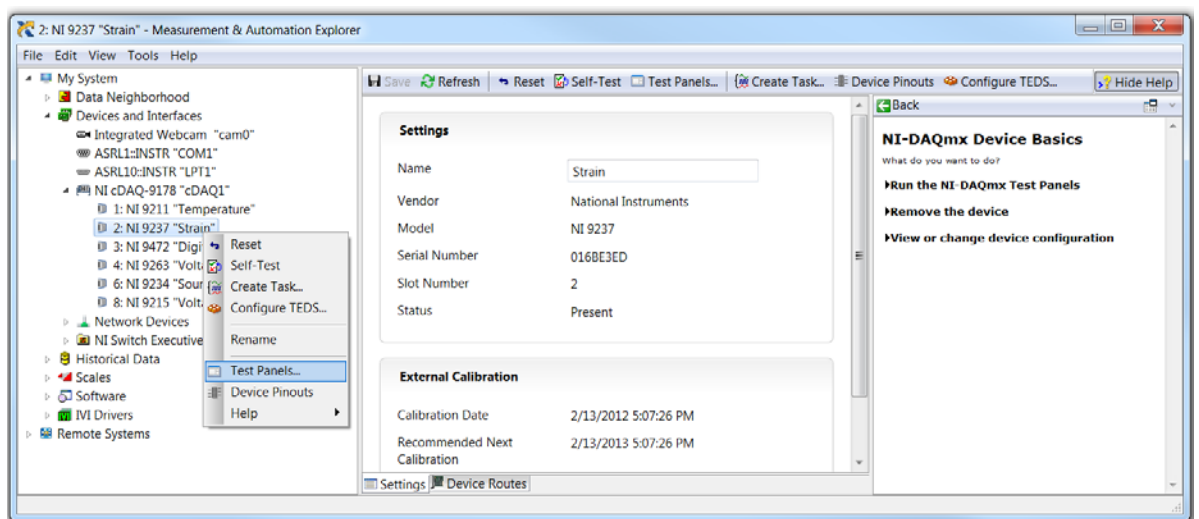

Figure 3. Select Test Panels to open a simple utility for checking signal connectivity.
6. Press **Start**. The test panel should look like Figure 3.